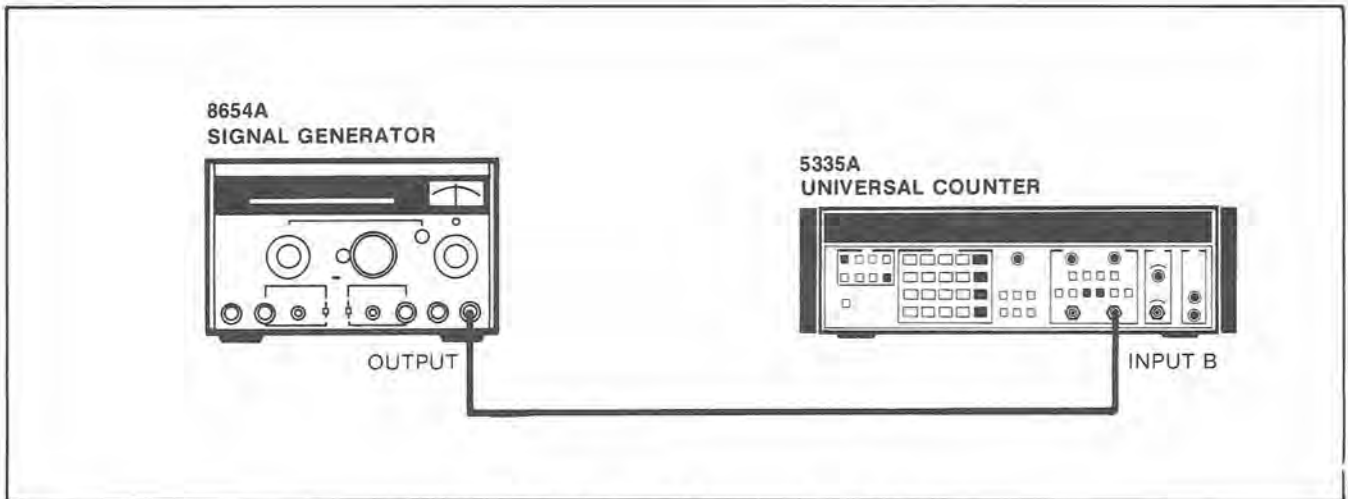

Figure 5-10. A12C30 Adjustment Test Setup
j. Connect the 8654A Signal Generator to the 5335A INPUT B, as shown in Figure 5-10.